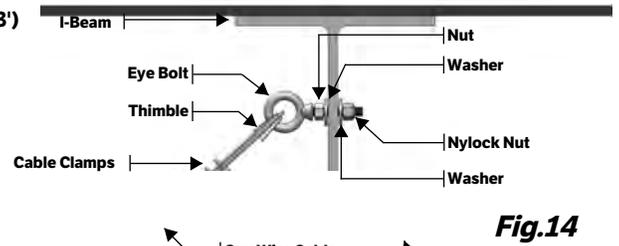

Fig.14
2. Install an eye bolt with nuts and washers in I-beam as per Fig. 14.